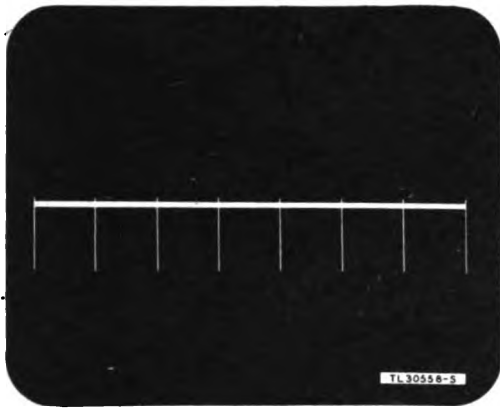

Figure 40. Control unit display pattern, 8:1 division ratio, negative trigger sync pulses.
e. The *trigger sync* pulses are fed by Cord CD-1105, connected between jacks 121-6 and 120, to the top vertical deflection plate of the display tube where they produce eight downward pips (fig. 40) on the sweep for a division ratio of 8:1. If the radar set is different from Radio Set SCR-784, and requires a different division adjustment, 6:1 for example, the division multivibrator is adjusted to recover at some time between *trigger sync* pulses 6 and 7, and only six pulses appear on the screen. The *trigger sync* pulses from a radar set other than Radio Set SCR-784 may be positive instead of negative. In this case, the pulses appear up from the sweep line, instead of downward.